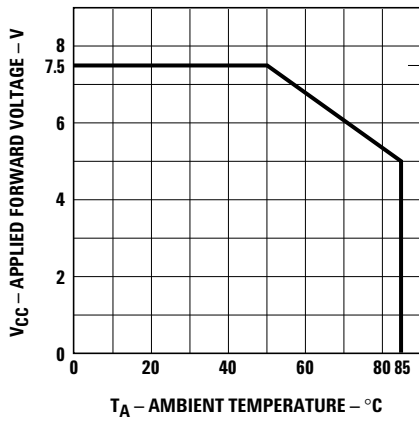

Figure 3. Maximum allowed applied forward voltage vs. ambient temperature $R_{\theta JA} = 175^{\circ}\text{C}/\text{W}$. 5 volt devices.
2. Derate from T_A = 50°C at 0.071 V/°C, see Figure 3.